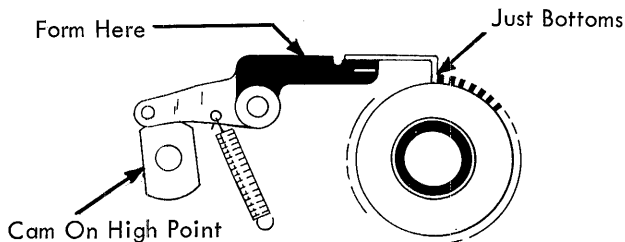

FIGURE 71B. Shift Interlock
- b. 11 Inch Machine - With the shift interlock on the high point of the cam, form the interlock so that the tip just bottoms between two teeth on the ratchet (Fig. 71b).